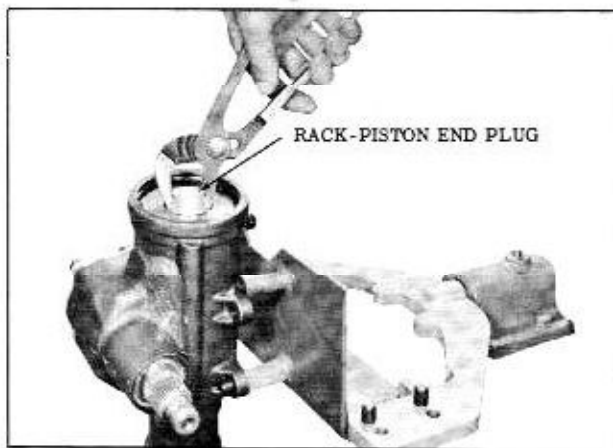

Fig. 4-42 Removing Rack-Piston Plug
3. Remove the rack-piston plug retaining ring using internal pliers, then pull the plug from rack-piston as shown in Fig. 4-42. Remove "O" ring from plug and discard.